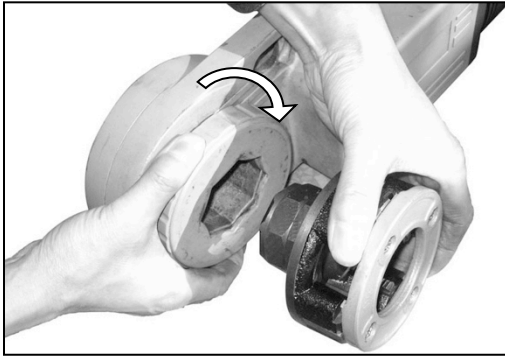

Figure 3
- For 1/2" through 1-1/4" 11R die heads, the adapter must be used. See above section. To install these die heads after the adapter has been installed, rotate adapter cap clockwise. Push die heads into adapter spline end first, then release the adapter cap to hold die head (see figure 3 and 4 below).